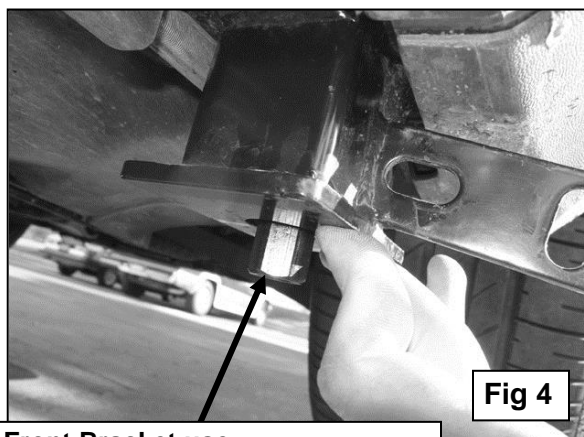

Fig 4
4. Select (1) Front Mounting Bracket, (**Figure 3**). Secure the front Mounting Bracket to the Bolt Plate with (1) 12mm Lock Washer, (1) 12mm Flat Washer and (1) 12mm Coupling (long) Hex Nut, (**Figure 4**). Do not tighten hardware at this time. **NOTE:** Refer to **Figure 3** to help identify brackets.